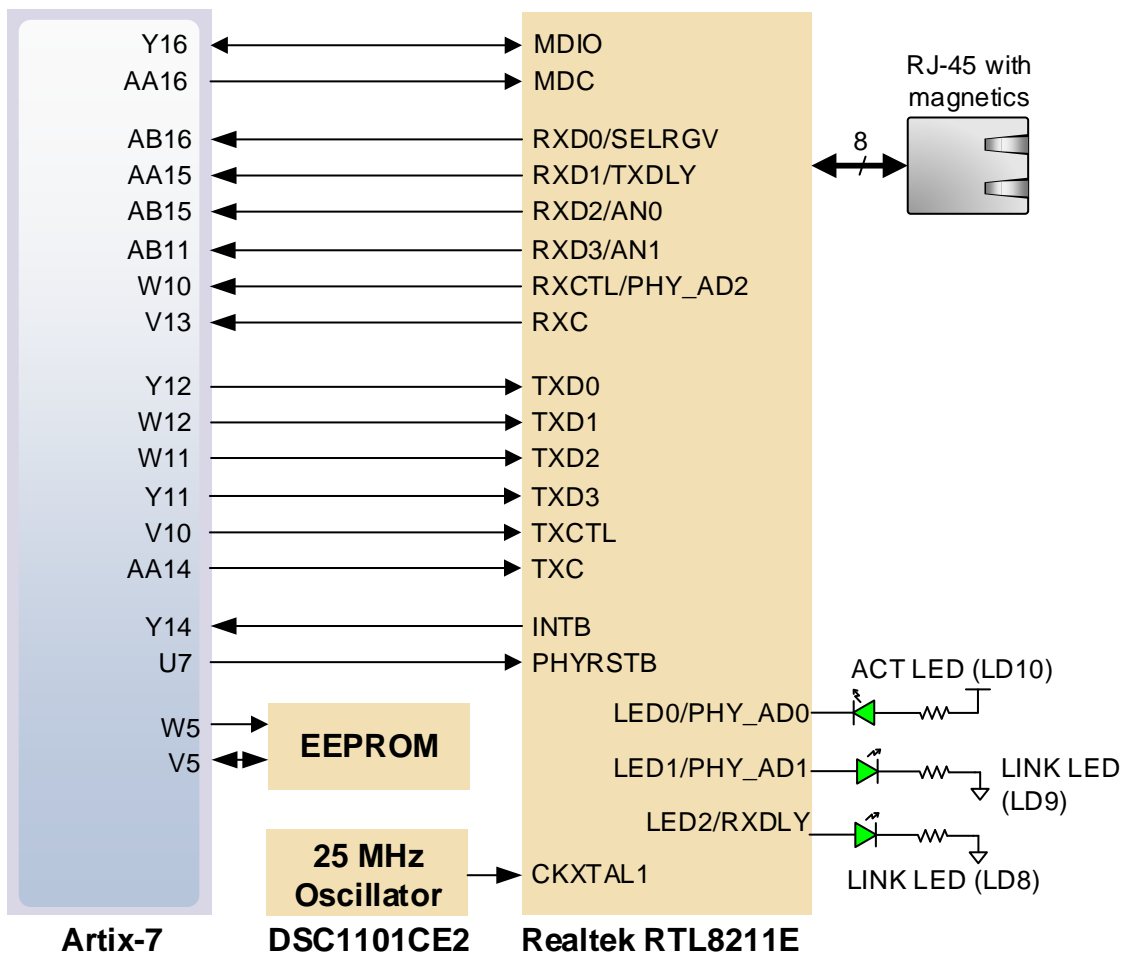

Figure 4. Pin connections between the Artix-7 and the Ethernet PHY.
The Nexys Video board includes a Realtek RTL8211E-VL PHY paired with an RJ-45 Ethernet jack with integrated magnetics to implement a 10/100/1000 Ethernet port for network connection. The PHY interfaces with the FPGA via RGMII for data and MDIO for management. Bank 13 powered at 2.5V is populated with these signals. The auxiliary interrupt (INT_B) and power management (PME_B) signals are also wired to bank 13. The reset signal (RST_B) is the only one wired to a different bank (34), powered at 3.3V. The connection diagram can be seen in Figure 4.